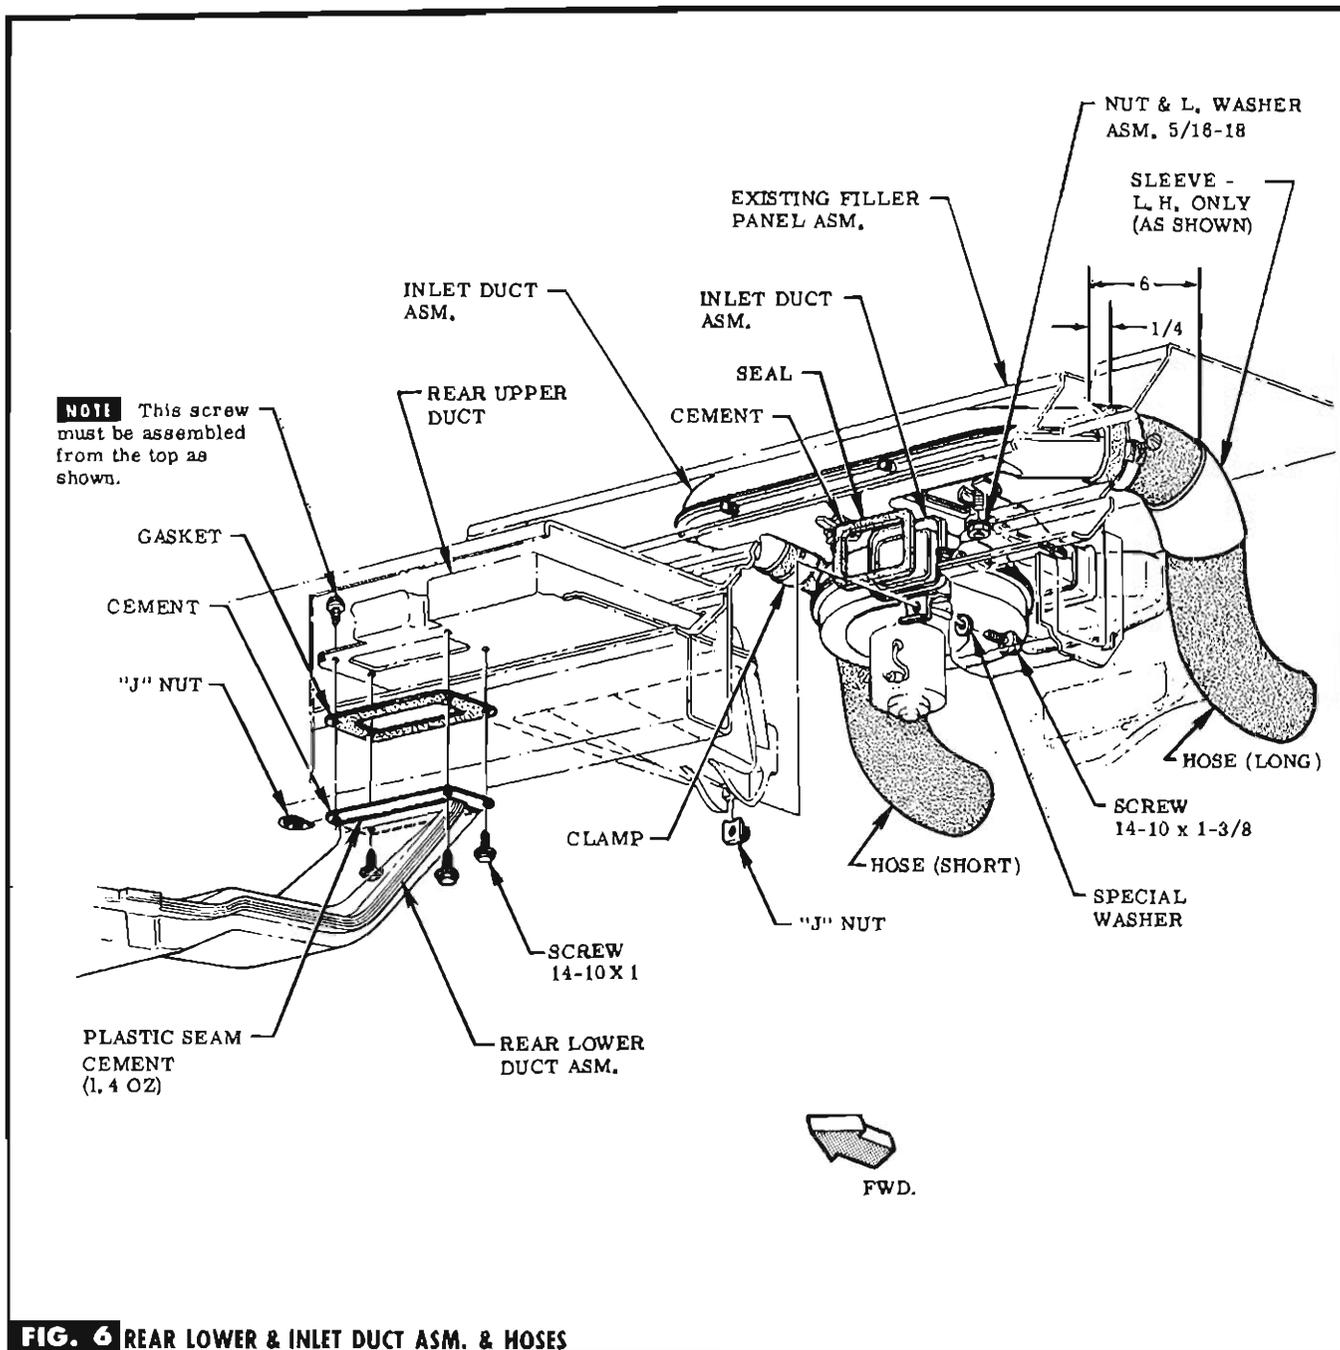

FIG. 6 REAR LOWER & INLET DUCT ASM. & HOSES
STEP 29 SLIDE CLAMPS (IN BAG D) & SLEEVE (L. H. ONLY) ONTO HOSES. SEE FIG. 6.
STEP 30 SLIDE HOSES ONTO INLET DUCT & TIGHTEN CLAMPS. SEE FIG. 6. **NOTE** Short hose must go on R. H. side & long hose on L. H. side.
STEP 31 LOOSELY INSTALL NUT ASM. (IN BAG C) TO FILLER PANEL. SLIP INLET DUCT ASM. ONTO STUDS & TIGHTEN. SEE FIG. 6.
STEP 32 SLIP J-NUT (IN BAG C) INTO PLACE. CEMENT SEAL TO INLET DUCT. SEE FIG. 6.
STEP 33 LOWER FILLER PANEL IN PLACE & ATTACH INLET DUCT TO REAR UPPER DUCT WITH SCREW, WASHER (IN BAG C). SEE FIG. 6.
STEP 34 ATTACH J-NUT (IN BAG B) & CEMENT GASKET TO REAR UPPER DUCT & CEMENT ALL AROUND JOINT OPENING ON REAR LOWER DUCT. SEE FIG. 6.
STEP 35 ATTACH REAR LOWER DUCT TO REAR UPPER DUCT WITH SCREWS (IN BAG B). SEE FIG. 6.